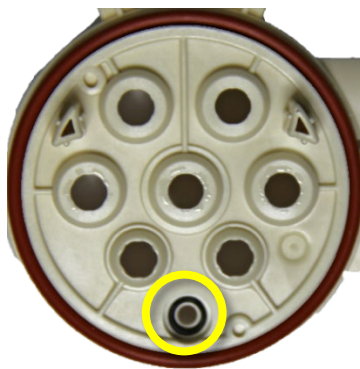

Figure 33
15. Insert a new smaller O-ring on the pin carrier screw bore (Figure 33).